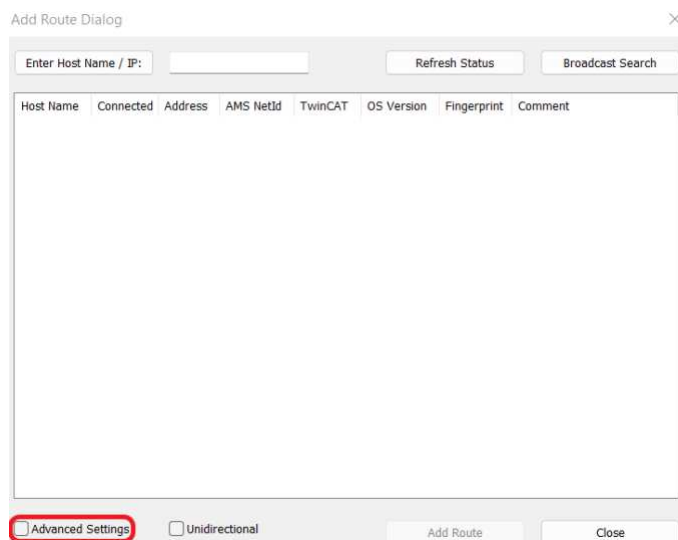

Figure 27: Static Routes – ‘Add Route Dialog’ window, basic settings
3. If this is the first time using the 'Add Route Dialog' window that opened, you will need to click on 'Advanced Settings' – highlighted in Figure 27 on the next page – to reveal additional settings you will need to change. If this is already enabled skip to the next step.